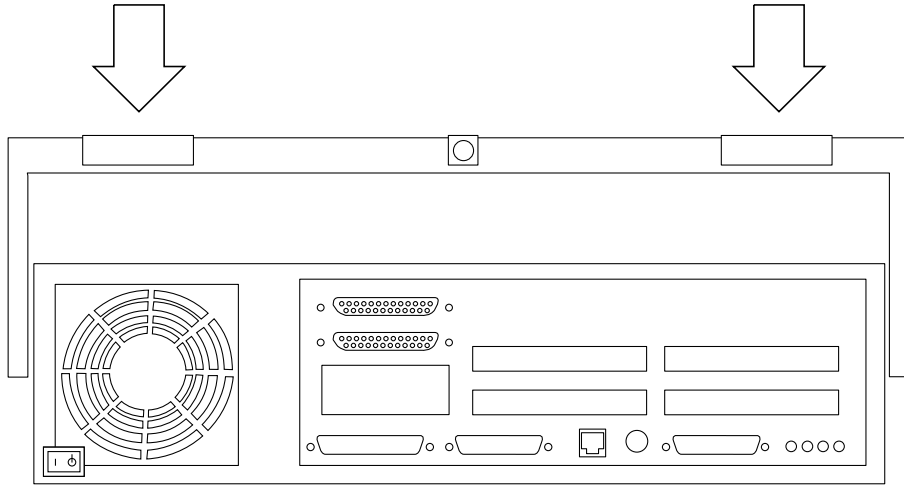

FIGURE 3-8 Lowering the Cover Onto the System Unit Back Panel
3. Slowly lower the cover onto the system unit so that the rear of the cover seats with the chassis back panel (see FIGURE 3-8).